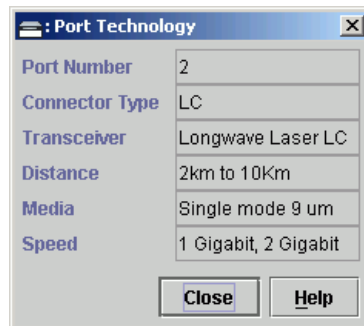

Figure 4-24 Port Technology Dialog Box
- Open the *Port Technology* dialog box (Figure 4-24 on page 4-37).
To open the *Port Technology* dialog box (Figure 4-24), right-click a port graphic at the *Hardware View* or a port row at the *Port List View*, then select *Port Technology* from the pop-up menu.